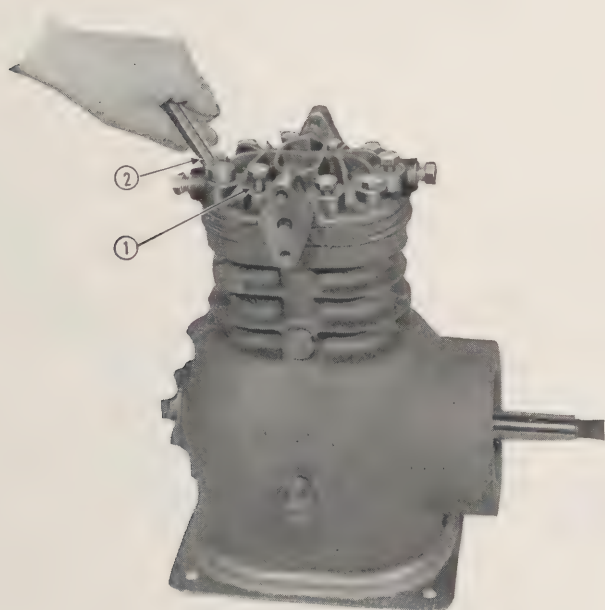

Figure 53. Removing compressor head.
- (13) Remove the 10 cap screws from the compressor head (fig 53) and remove the head and valve plate assembly by striking these parts lightly using a wooden block to break the gasket adhesion (fig 54).
- (14) In the event of a broken connecting rod and the piston damaged, the piston can be forced out by driving it down through the crankcase.